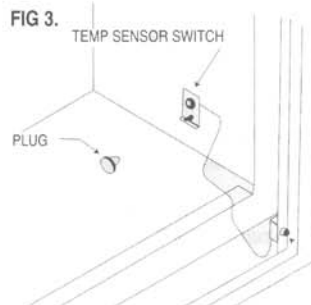

FIG 3.
3. By plugging in the male to female connectors (Fig.3) connect the variable speed control and the temperature sensor switch to the short lead wires of the junction box.